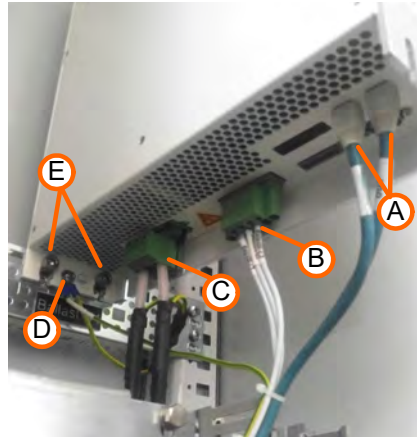

Figure 10-40: Cables to be Disconnected & Bolts to be removed or loosened
Step 17. Reconnect the ground wires marked **D** in **Figure 10-40** on page **138** and fasten the nut tightly.
Step 18. Reconnect the ground wires marked **D** in **Figure 10-40** on page **138** and fasten the nut tightly.
Step 19. Reconnect the green connectors marked **B** and **C** respectively in **Figure 10-40** on page **138** and fasten the screws on each side.